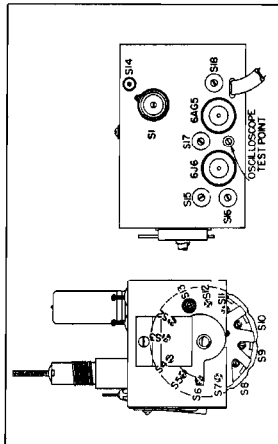

FIGURE 1 - TRIMMER LOCATION
2. Connect oscilloscope to oscilloscope test point (See Figure 1, Trimmer location).